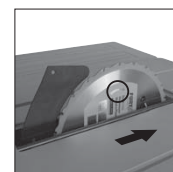

Fig. 45
- Fit the new blade. Ensure that the teeth are facing to the front of the saw (Fig. 45), and that the rotation arrow on the blade is in conformism with the rotation arrow on the motor housing.